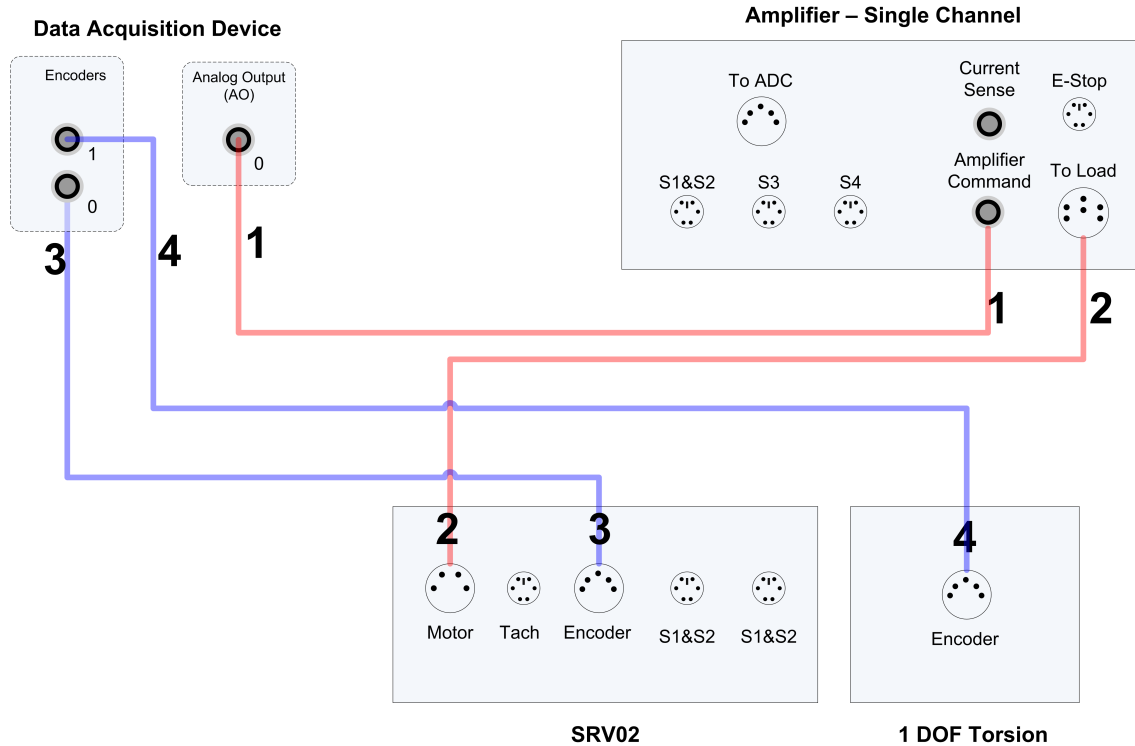
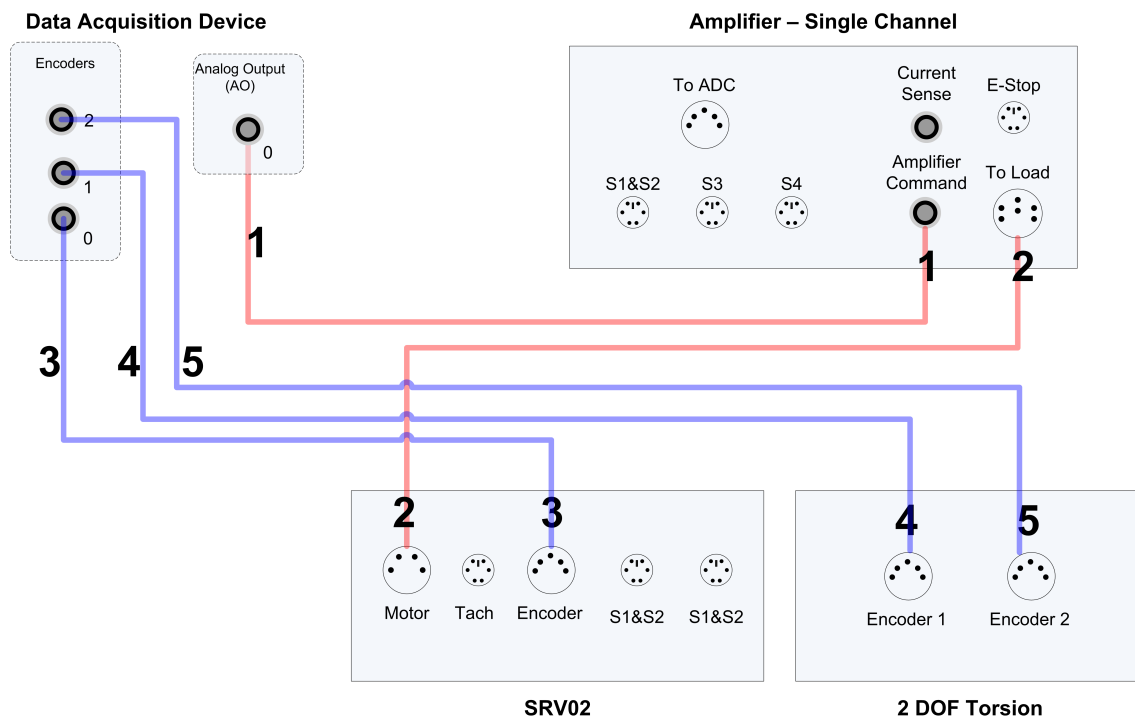

Figure 5.1: Connecting the 1-DOF Torsion System to the DAQ Device and Power Amplifier
Figure 5.2: Connecting the 2-DOF Torsion System to the DAQ Device and Power Amplifier
This section describes the typical connections used to connect the SRV02 1-DOF Torsion system to a data-acquisition device and the power amplifier. The connections are shown in Figure 5.1 and given in Table 5.2. Wiring details are
3. Connect the one of the ends of the 2xRCA to 2xRCA cable from the *Analog Output Channel #0* on the terminal board to the *Amplifier Command* connector on the amplifier that will be connected to SRV02. See cable #1 shown in Figure 5.1 and Figure 5.2. This carries the attenuated SRV02 motor voltage control signal, V_m/K_a , where K_a is the amplifier gain.
4. Connect the 4-pin-stereo-DIN to 6-pin-stereo-DIN that from the *To Load* on the amplifier to the *Motor* connector on the SRV02. See connection #2 shown in Figure 5.1 and Figure 5.2. The cable transmits the amplified voltage that is applied to the SRV02 motor and is denoted V_m .
5. Connect the 5-pin-stereo-DIN to 5-pin-stereo-DIN cable from the *Encoder* connector on the SRV02 A panel to *Input # 0* on the terminal board, as depicted by connection #3 in Figure 5.1. This carries the SRV02 load shaft angle measurement and is denoted by the variable θ_1 .
6. Connect the 5-pin-stereo-DIN to 5-pin-stereo-DIN cable from the *Encoder* connector on the Torsion module panel to *Input # 1* on the terminal board, as depicted by connection #4 in Figure 5.1. This carries the 1-DOF Torsion load shaft angle measurement and is denoted by the variable θ_2 .
2. Connect the 5-pin-stereo-DIN to 5-pin-stereo-DIN cable from the *Encoder* connector on the second Torsion module panel to *Encoder Input # 2* on the terminal board, as depicted by connection #5 in Figure 5.2. This carries the 2-DOF Torsion load shaft angle measurement and is denoted by the variable θ_3 .